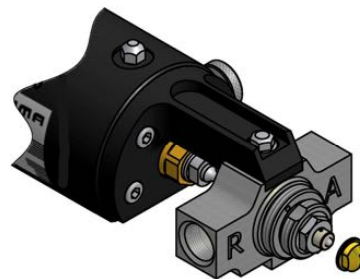

Figure. 10
10. Remove the PCD and clean it with gun-cleaning solvent (see **Figure. 10**).